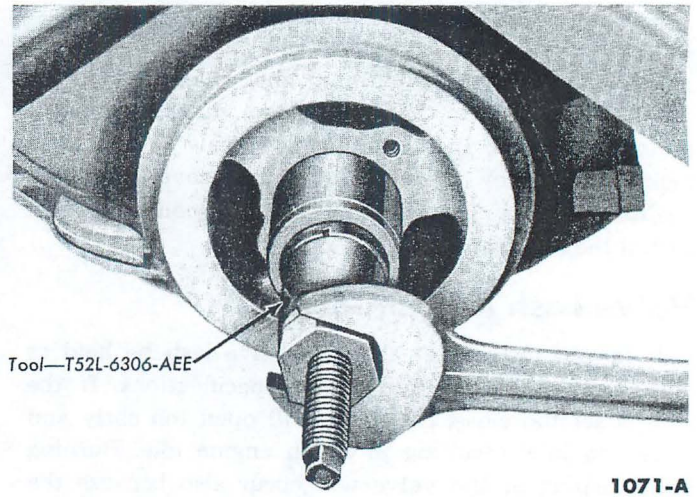

Fig. 23—Damper Installation
2. Align the damper keyway with the key on the crankshaft and start the damper on the shaft. Press the damper on the shaft (Fig. 23). Install the lockwasher